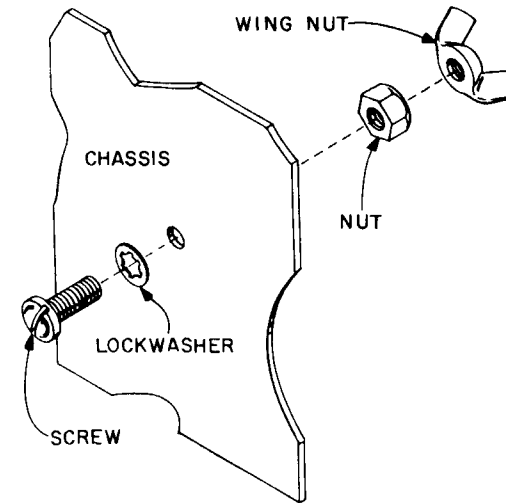

FIGURE 5. GROUND POST ASSEMBLY
- ☑ Ground post, a 10-32 screw, lockwasher, nut and wing nut. Assemble as shown in Figure 5.